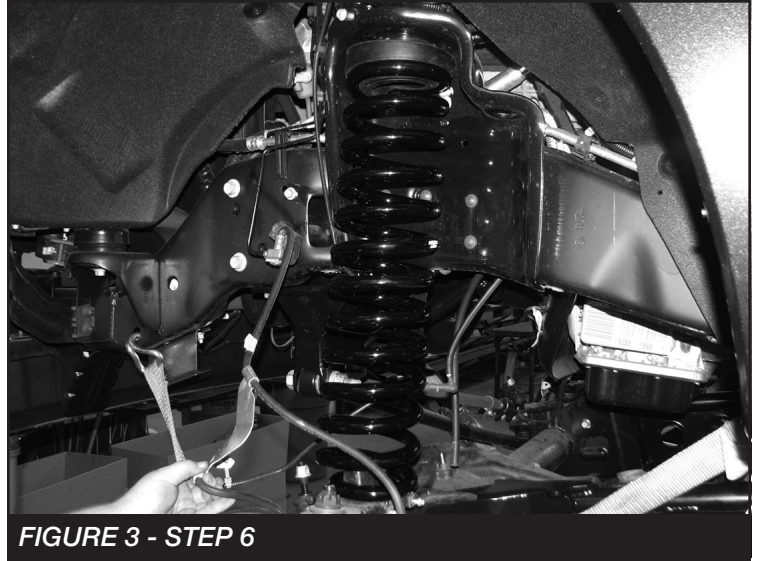

FIGURE 3 - STEP 6
6. Install FT30869 (2.5" Coil spring) into the factory location using the factory upper rubber isolator. Repeat on opposite side. **SEE FIGURE 3**